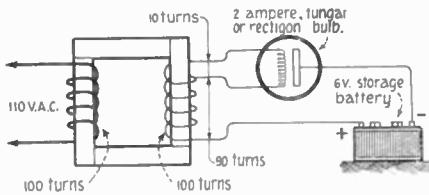

Fig. 1
Figure 1 is the wiring diagram. (A) is the primary coil made up of 400 turns of No. 18 wire. The leads from this coil attach to the lighting circuit, 110 volts A. C., and may be provided with an attachment plug to go into any lamp socket. (B) is the secondary coil and consists of 100 turns of No. 14 wire. A tap is taken off at the tenth turn and leads to the filament of the tube, together with the first ten turns. The last or hundredth turn connects to the positive (+) terminal of the battery being charged, and the plate connection on the top of the rectifying tube goes to the negative (-) terminal. Battery clips provide the necessary connections.
on the bottom, on the piece of wood, one on each end. Connect them with a piece of wire and insulate them from the wood with four of the rubber washers as shown in Figures 1 and 2. From an old clock spring cut a piece about two and a half inches long, and fasten this to one of the binding posts.